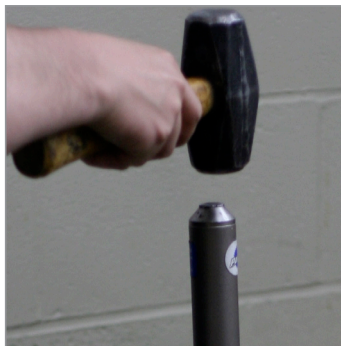

Figure 1
- Once the headset cups have been installed into the frame according to the headset manufacturer's instructions, install the crown race. Holding the fork in one hand, install the headset's fork crown race onto the fork race seat with a headset crown race setting tool and hammer (figure 1).